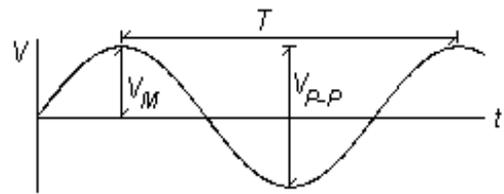

FIGURE 1
We will be analyzing AC sinusoidal voltage signals in this lab. Such a voltage signal is characterized by a voltage amplitude (V_M), a peak-to-peak voltage (V_{P-P}) which is twice the amplitude, a period (T) which is the time for one complete cycle, and a frequency (f) which is the number of cycles per second measured in Hertz. Period and frequency are reciprocals of one another, i.e. $f = 1/T$. Figure 1 shows such a voltage signal versus time.
f) Measure the period of the signal. Recall that the period is the time required for one cycle as illustrated in Fig. 1. Using this value of T , calculate the frequency f of the signal. Is this value close to 100 Hz? It may not agree exactly since the frequency knob of the SSG may not be calibrated perfectly.